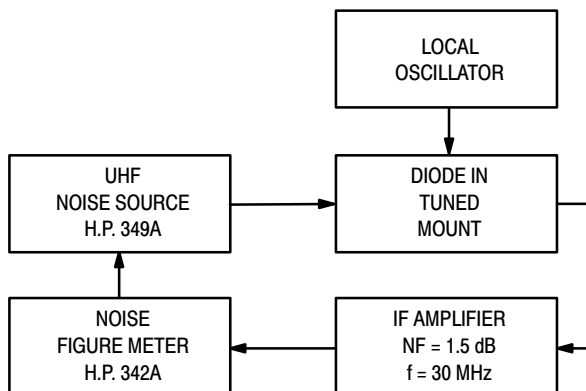

Figure 5. Noise Figure Test Circuit
- Note 2 – Noise figure measured with diode under test in tuned diode mount using UHF noise source and local oscillator (LO) frequency of 1.0 GHz. The LO power is adjusted for 1.0 mW. IF amplifier NF = 1.5 dB, $f = 30$ MHz, see Figure 5.